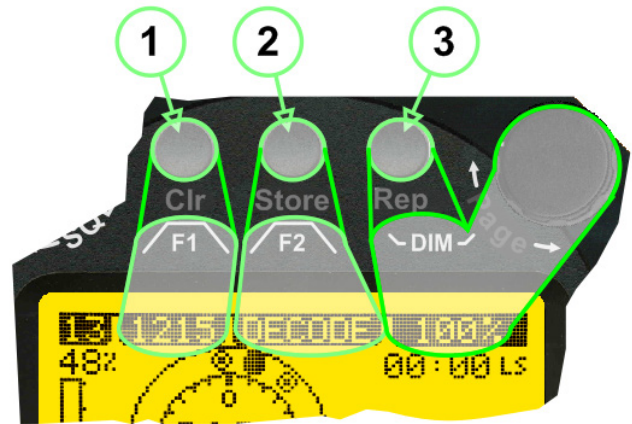

Fig 3) Push buttons / short-time keypress
- (1) **>LC Graphic Display<** (128 x 64 dots dot-matrix display, dark blue on yellow-green background) showing all relevant operational information depending upon the selected page.
- (2) **>ON/OFF<** Push-button to switch on / off the system.
- (3) **>Menu<** options for rotary and push buttons: If a field with dark background and bright text is shown below a button or switch, the function described in this field may be selected through the operational element above or below this menu field. In case of the Page Menu, the active page is high-lighted with dark background, while the inactive page is in black letters.
- (4) **>Volume<** Rotary Switch, used, depending on the active page, to adjust the volume of the audio output or to select frequency values (MHz steps).
- (5) **>SQL<** Rotary Switch, used depending on the active page, to adjust the squelch function or to select specific functions on a page depending upon the interactive menu on the display.
- (6) **Push-buttons** (see "Fig 3") in Chapter 2.1.1)
- (7) **>Page<** Rotary Switch, selects pages "DF" and "FRQ":